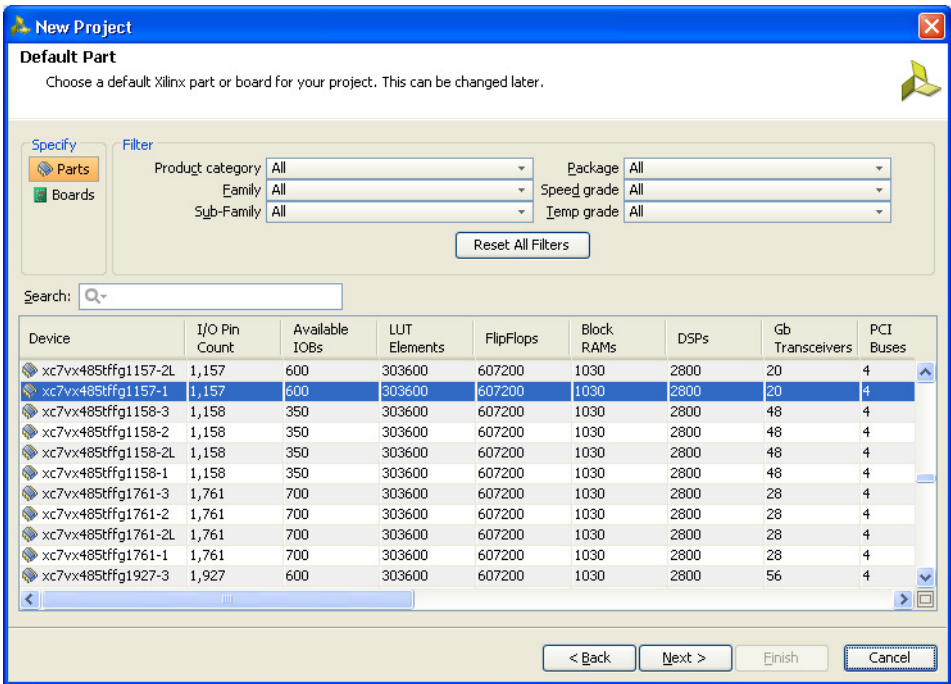

Figure 3-8: Default Part (Default Window)
8. Click **Next** to proceed to the Default Part page (Figure 3-8) where the device that needs to be targeted can be selected. The default Part page appears as shown in Figure 3-8.